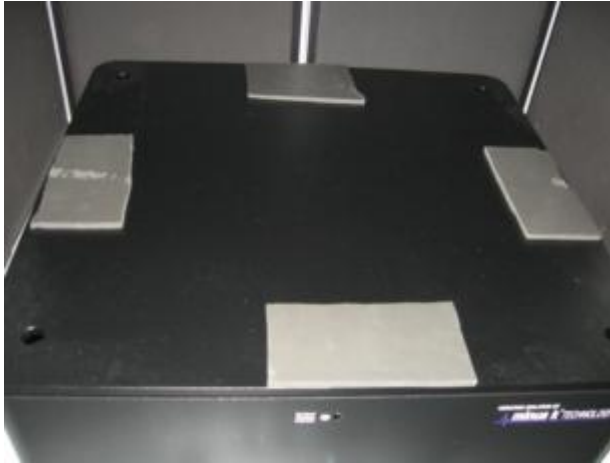

Figure 77: Rubber Pads on Table Plate
1. Before placing the breadboard on the Minus K table, set in place the four flat rubber pads, as depicted in Figure 77, below. This achieves several desired results: